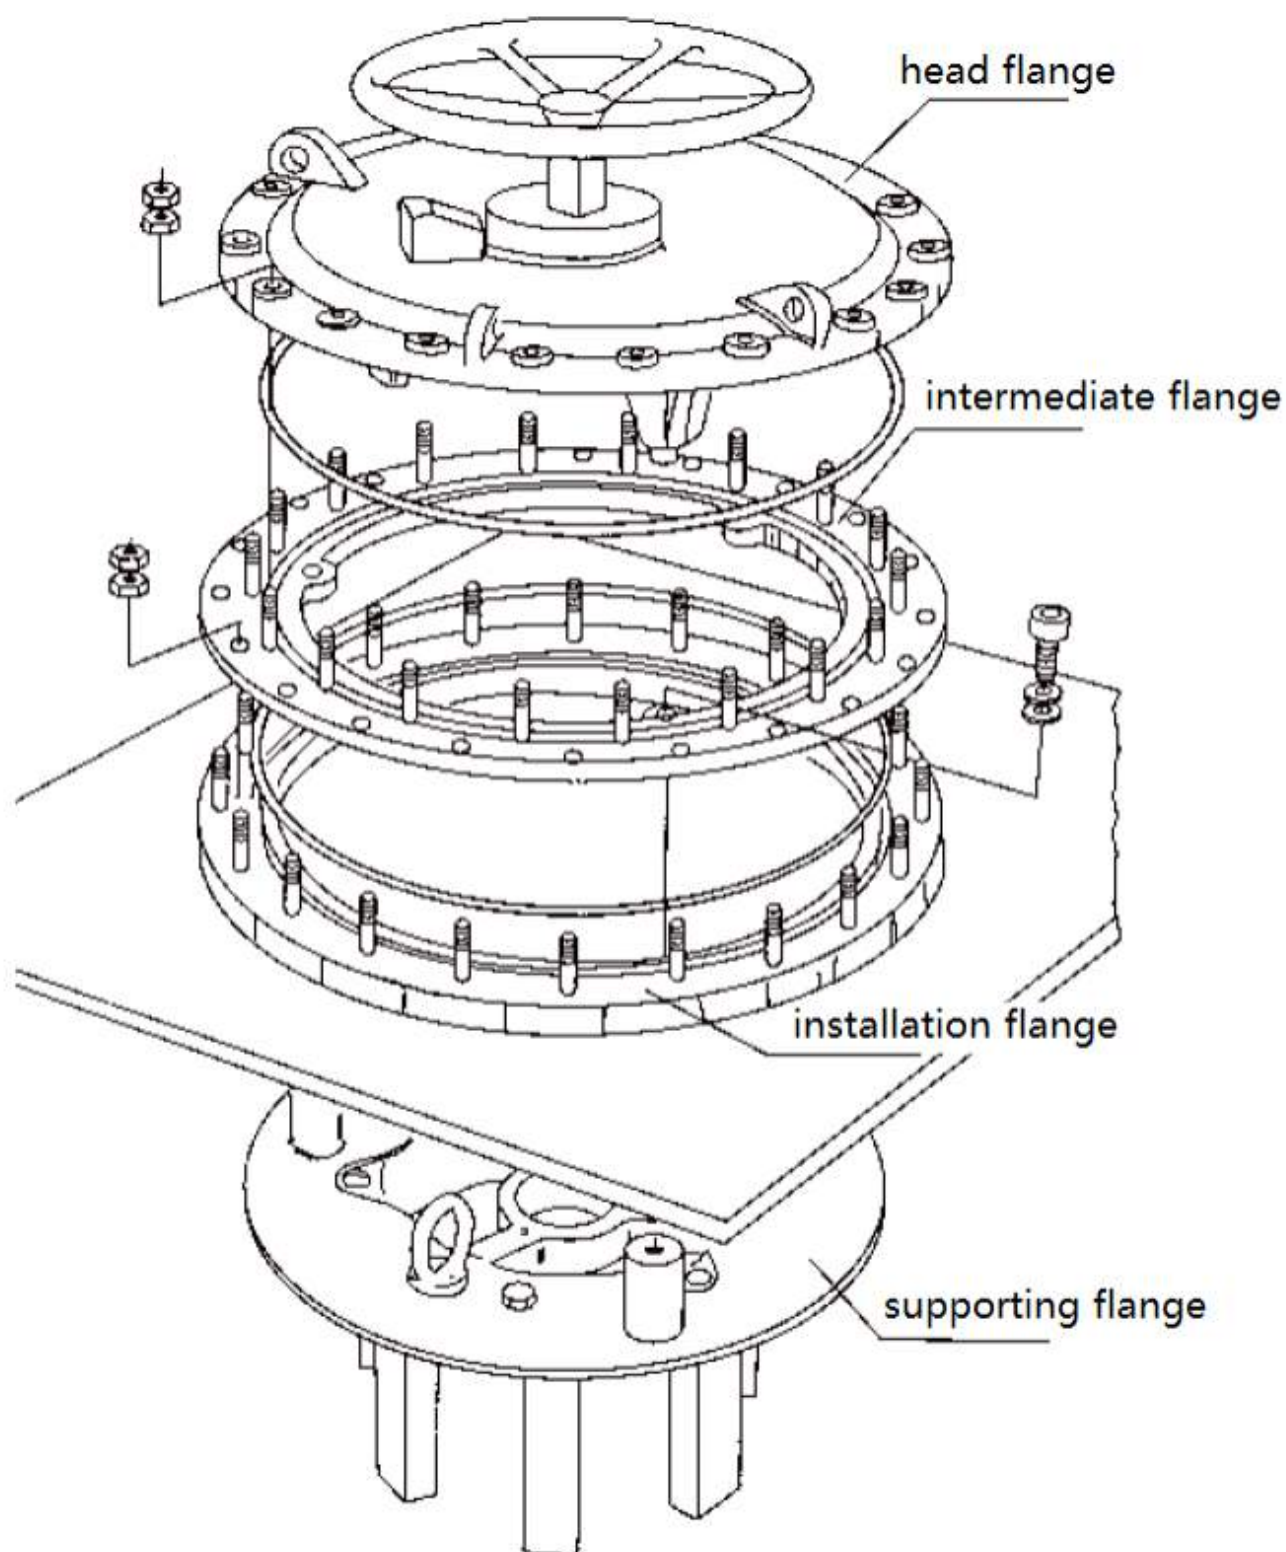

Fig. 8 Installation diagram of the tap changer mounting on the bell type transformer
6.2.2 Installation of the off-circuit tap changer in bell type transformer (fig. 8)